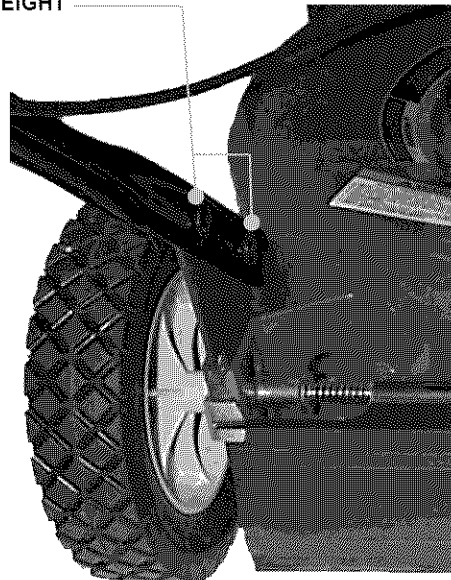

FIGURE 2.7
1. Loosen the two nuts on the inside of each of the lower handles as shown in Figure 2.7.